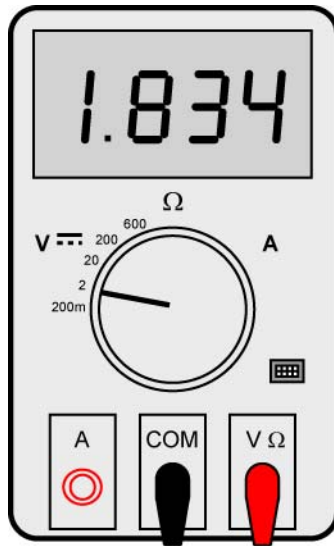

Figure 9: Reading Digital Meter Example 1
- Digital Example 1: In Figure 9, the selector switch is set at the 2 volt maximum reading. The range is in volts (not millivolts) so the reading is 1.834V. If you were to measure a voltage over 1.999 volts, the meter would normally read '1', meaning you have exceeded the selected range maximum reading (Figure 10). The first digit on many multimeters is only able to display a '1' so the voltage ranges in the meter in Figure 9 are limited to 199.9mV, 1.999V, 19.99V, and 199.9V,